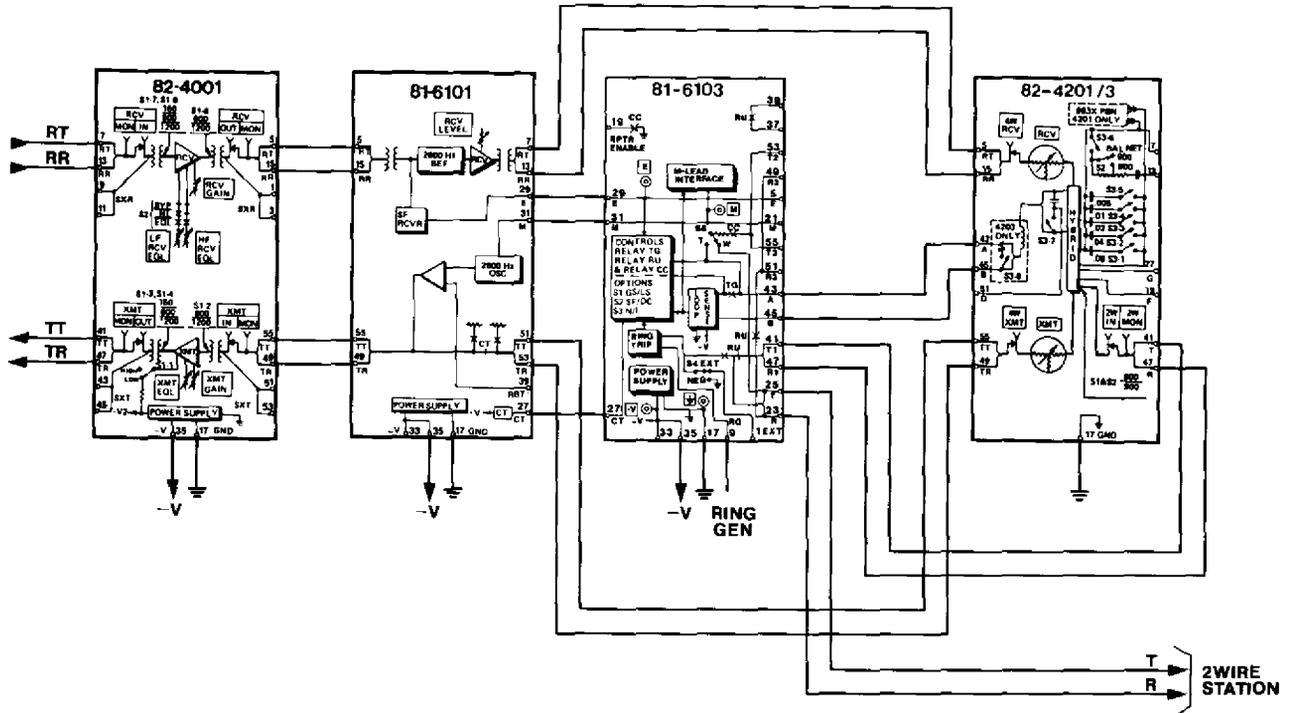

figure 5. Required wiring connections for typical SF application of 6103 (these connections are factory-prewired in Tellabs 260 and 261 Assemblies)
3.03 In applications where the 6103 module is to be installed in a 260 or 261 Assembly, no external connections to the module itself need be made because all internal connections in these assemblies are factory-prewired. For reference purposes, however, all required connections in a typical 260 or 261-System signaling and terminating circuit (in this illustration, an SF circuit) are shown in figure 5.